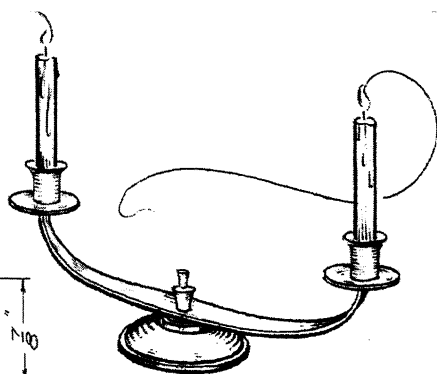

FIG. 7
7. Make the arm. File the stock to shape and sizes, as shown in Fig. 7. A coarse file should be used in roughing to size.